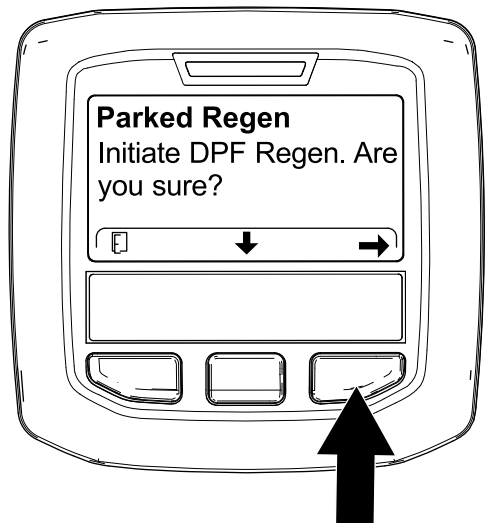

Figure 86
- At the INITIATE DPF REGEN screen, press the right button to continue (Figure 86).